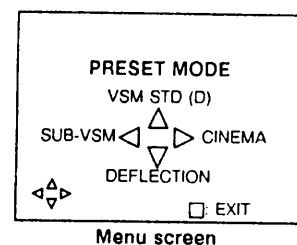

Fig 7.
- 2: The Pre-set Mode menu screen (fig. 7) is displayed.